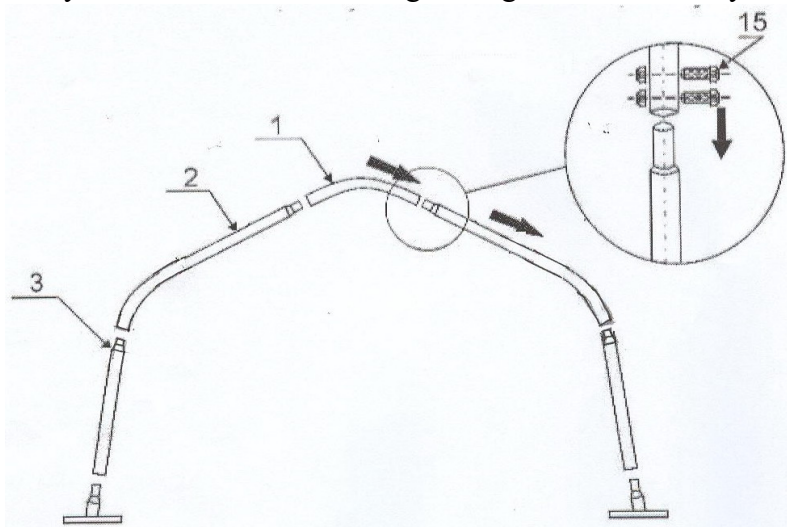

Figure 4
1. As Figure 4 shown find Roof Bent Joist (part code1), Sidewall Bent Joist (part code 2) and Upright Tube (part code 3) and assemble every group arch with Screw M10x90(No.15) DO NOT install the screws on the top of the truss where the fabric will rest.